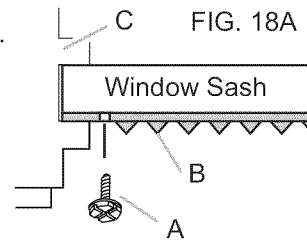
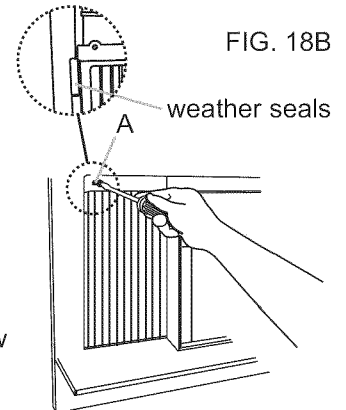

FIG. 18A
FIG. 18B
2. Use a 1/8" drill bit to drill a starter hole through the hole in the top leg of each window filler panel and into the window sash (Fig. 18A and Fig. 18B). Connect with one 1/2" long hex head screw.
3. If necessary, trim weather seals to needed length, peel off protective backing, and use to plug any gaps. See Fig. 18B.